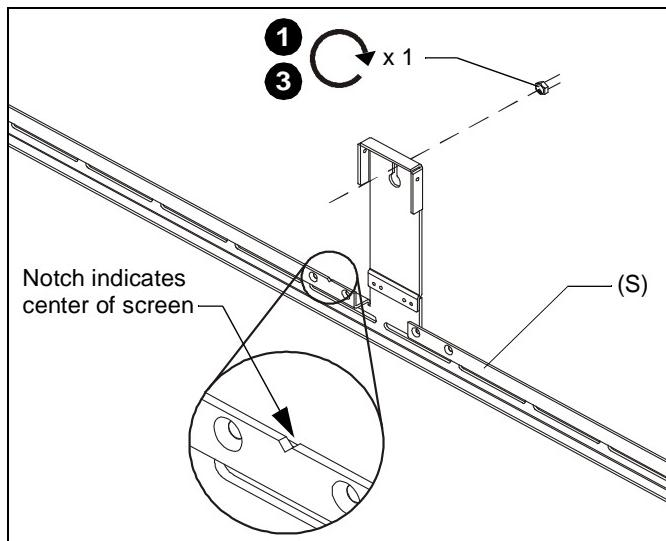

Figure 2
1. Install one fastener (See Table 1) into previously drilled hole, leaving 1/2" of fastener extending from wall. (See Figure 2)
(See Figure 2)
NOTE: Notch in wall bracket (S) indicates center of screen. (See Figure 2)